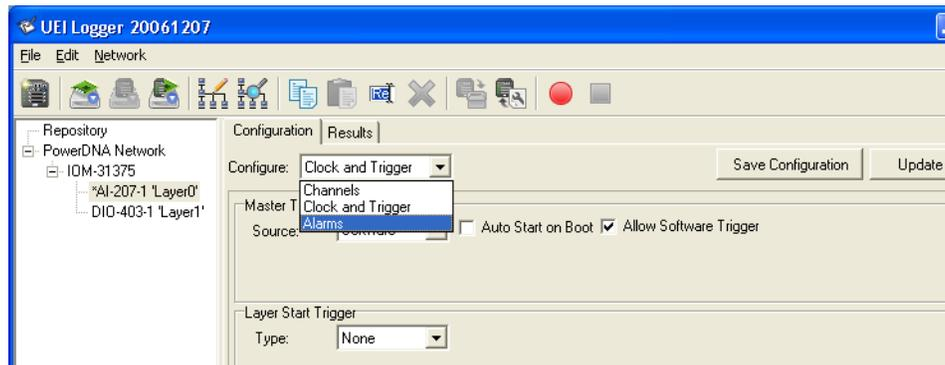

Figure 2-27 Selecting Alarms
- STEP 1:** In the Configure window, pull down the menu and select Alarms, as shown in **Figure 2-27**.